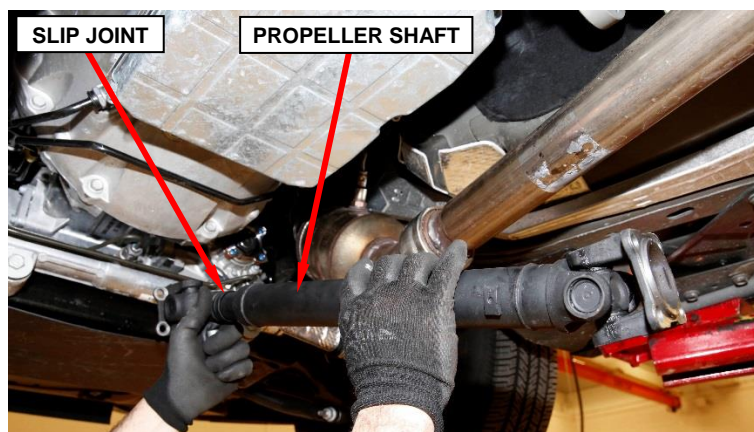

Figure 4 – Front Propeller Shaft
6. Remove and discard the front propeller shaft (Figure 4).
7. Install the **new** propeller shaft into position (Figure 4).